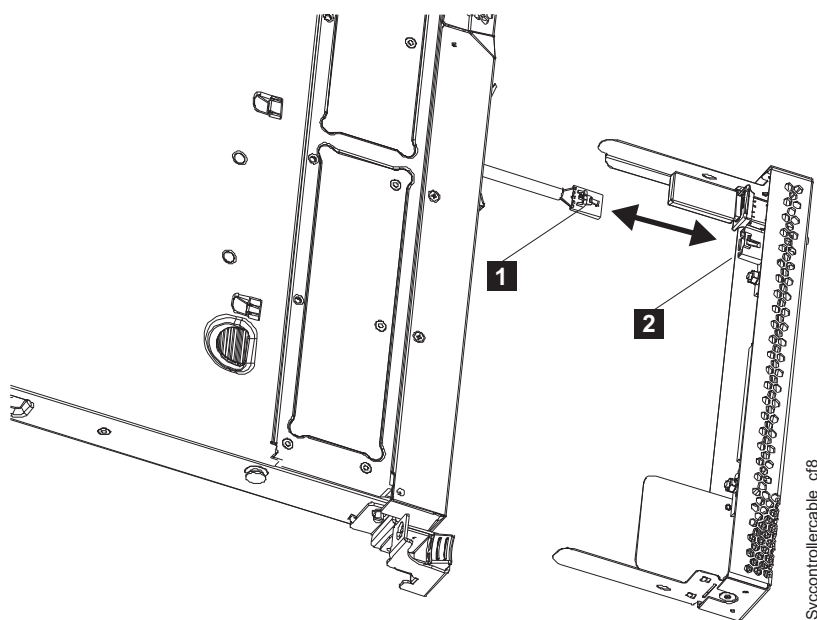

Figure 100. Removing and replacing the USB cable in the SAN Volume Controller 2145-CG8 or 2145-CF8 service controller
- a. Disconnect the USB cable (**1** in Figure 100) from the service controller (**2**).
- d. Install the other end of the USB cable in the USB connector (**2** in Figure 100 on page 122) on the rear of the service controller.